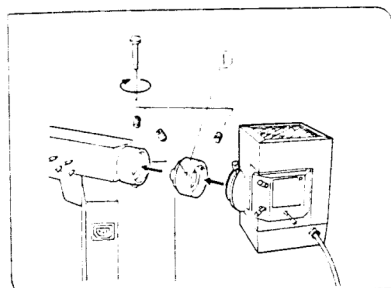

Fig. 12
When more illumination is required, use the optional U-UCV ① converter lens. To install the converter lens, insert it between the vertical illuminator and the lamp housing and fasten it with the two clamping screws. (Fig. 12)